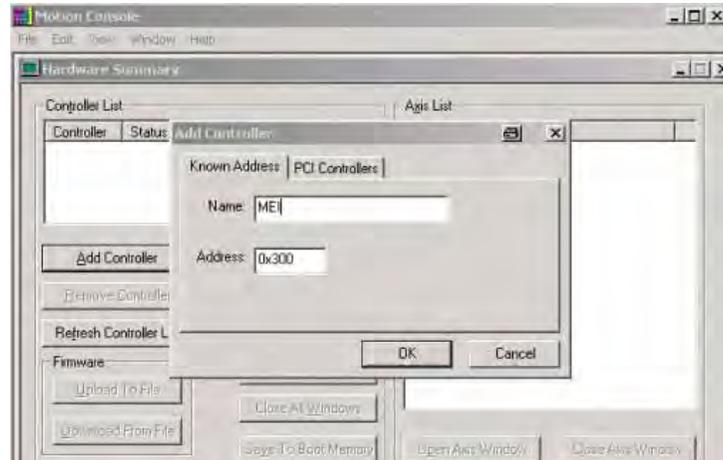

Figure 5-72—Add controller
- 3b) In the Add Controller window, type MEI. Click **OK**. See *Figure 5-72*.